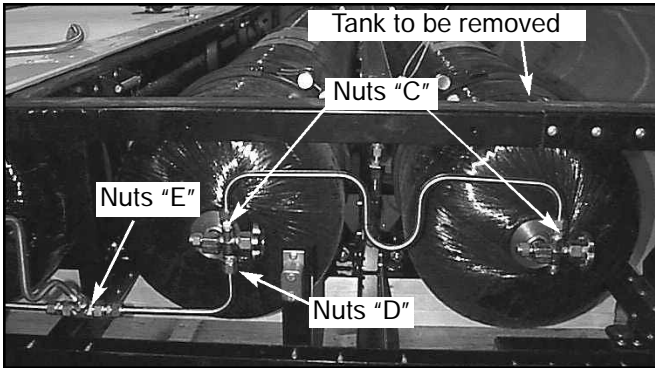

Figure 11-4 Fuel Line Removal
3. On the valve end, loosen both nuts "C" (reference Figure 11-4). After the nuts are loose, slide the nuts away from the fittings.
3. Loosen both nuts "C" (reference Figure 11-4). After the nuts are loose, slide the nuts away from the fitting. Loosen the 3/4" fill line. Loosen nuts D and E. Drop the lower 1/2" lines down.
5. Loosen nuts "D" and "E" (reference Figure 11-4). After the nuts are loose, slide the nuts away from the fittings.
4. Attach and tighten nut "D" while ensuring proper alignment and nut "E" if necessary per the fitting manufacturers specifications (see Figure 11-4).
5. Insert the fuel line section removed in step 4 of section 11.2 or step 4 of 11.3. Tighten nuts "C" per the fitting manufacturer's specifications (see Figure 11-4).